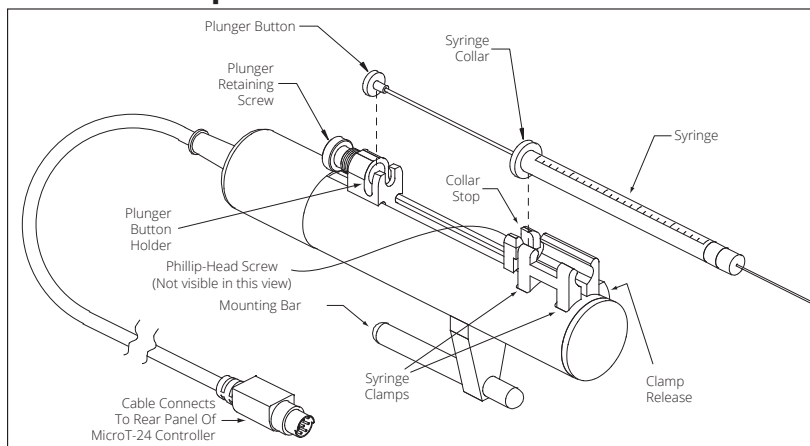
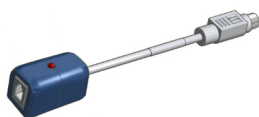

Fig. 8—The parts of the pump are labeled
Fig. 10—The 40239 dongle connects the Nanoliter 2010 injector to the SMARTouch controller.
NOTE: A **Nanoliter 2010** adapter cable (WPI #40239) is required to connect the **Nanoliter 2010** injector to the **MICRO2T SMARTouch** controller (Fig. 10).
The **UMP3** can be mounted directly onto a stereotaxic frame or a micromanipulator, using the mounting bar (Fig. 8). The mounting bar may be unscrewed and repositioned, if necessary. Two positions are available on the under side of the **UMP3** (Fig. 10).
2. Then, place the syringe collar into the collar stop (Fig. 8).